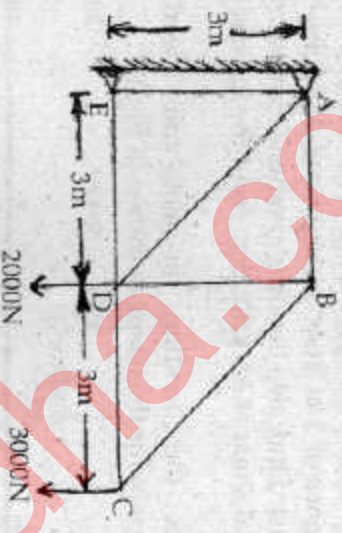

Fig. 1.3
8. Find the forces in the members BC, HG, BG and DG of the truss as shown in Fig. 1.3. 20